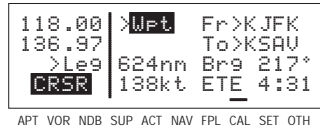

Figure 4-52
2. For this type of calculation, the cyclic field should display **Wpt**. Press **CLR** to toggle if this is not the case (figure 4-52).